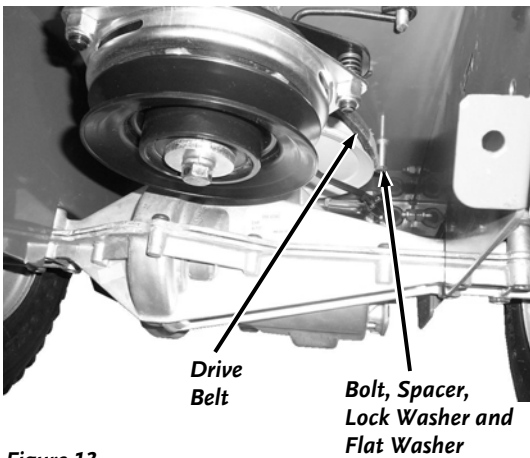

Figure 13
5. Remove the two Bolts, Spacers, Flat Washers and Lock Washers that guide the Belt onto the Transaxle Pulley with a 7/16" Wrench (**Figure 13**).